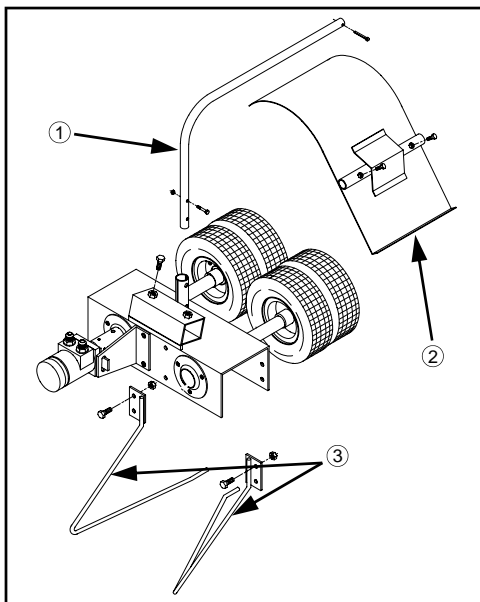

FIG 3.14
2. Install the stalk guides to the quad puller head assembly (fig. 3.14, item 3).
3. Attach the deflector shield mount tube (fig. 3.14, item 1) and the deflector shields for right or left hand deflection (fig. 3.14, item 2).